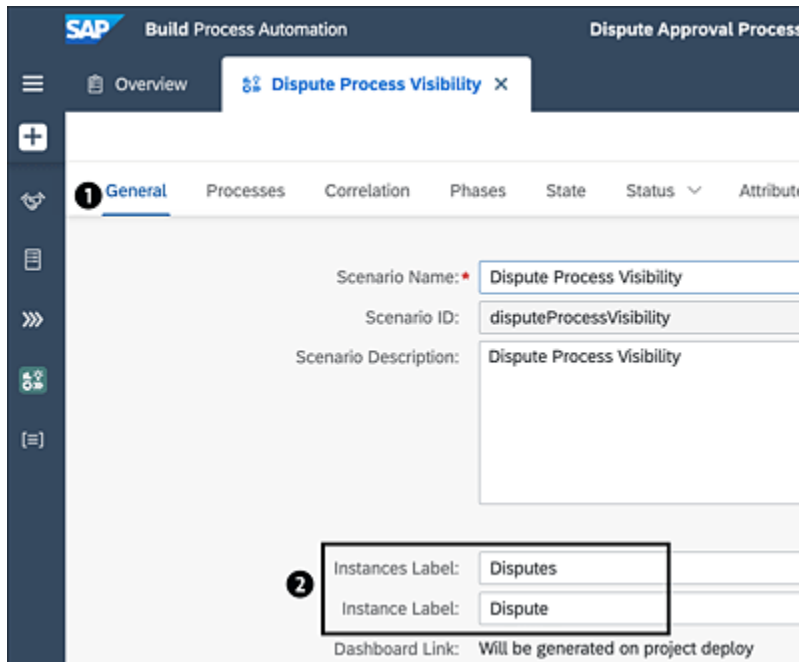

Figure 19.6 Configuring the Visibility Scenario: General Tab
When you open a visibility scenario, by default, the **Processes** tab gets opened. Before you add the required process (or processes), you need to do some minor changes in the **General** tab. This isn't critical as far as the desired functionality is concerned, but it's a good practice to follow. To make it easier to see the instances that are being processed, go to the **General** tab **①**, and enter the value of the **Instances Label** field to "Disputes" and the **Instance Label** field to "Dispute" **②**, as shown in Figure 19.6.